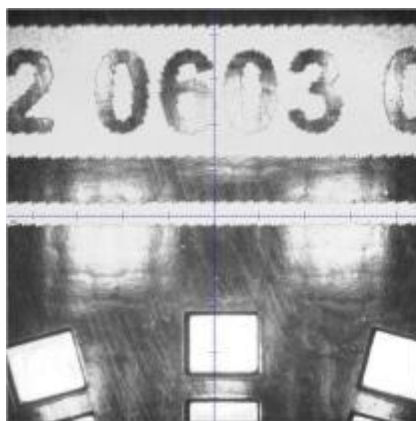

Fig.2
② Click "Position Align" and into below interface(See fig.2),then adjust the position of